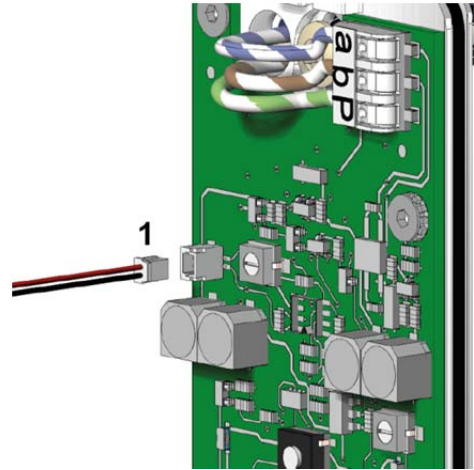

Fig. 6: Connecting the loudspeaker
- ▶ Plug the connector of the loudspeaker cable (1) into the appropriate socket (Fig. 6).